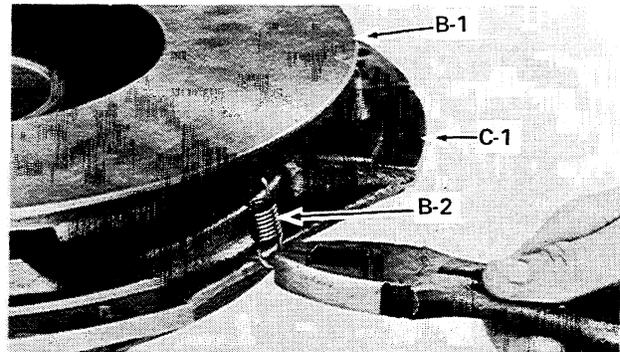

Figure 8:
6. Set clutch assembly (without driven discs and intermediate plate) upside down on a flat table or workbench. Unhook four return springs (B-2) from flywheel ring (C-1) and lift pressure plate (B-1) off (see Fig. 8).